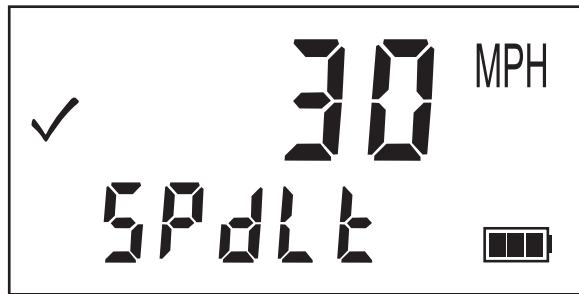

Figure 27
To display the Speed Limit Edit Screen, press the  button 5 times. The current value associated with the local speed limit appears in the upper display. The display should look similar to Figure 27. In this example the local speed limit is 30 mph.
1. Press the  button 5 times. The initial screen should look similar to Figure 27.